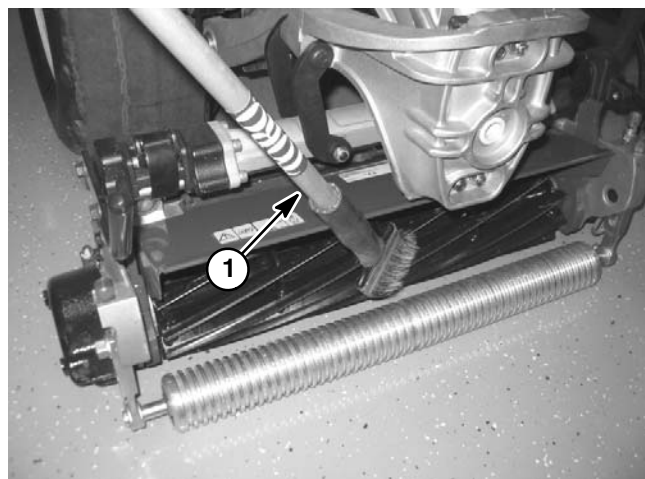

Figure 15
7. Apply lapping compound with a long handle brush (see Special Tools in this chapter) (Fig. 15). Never use a short handled brush to apply lapping compound.